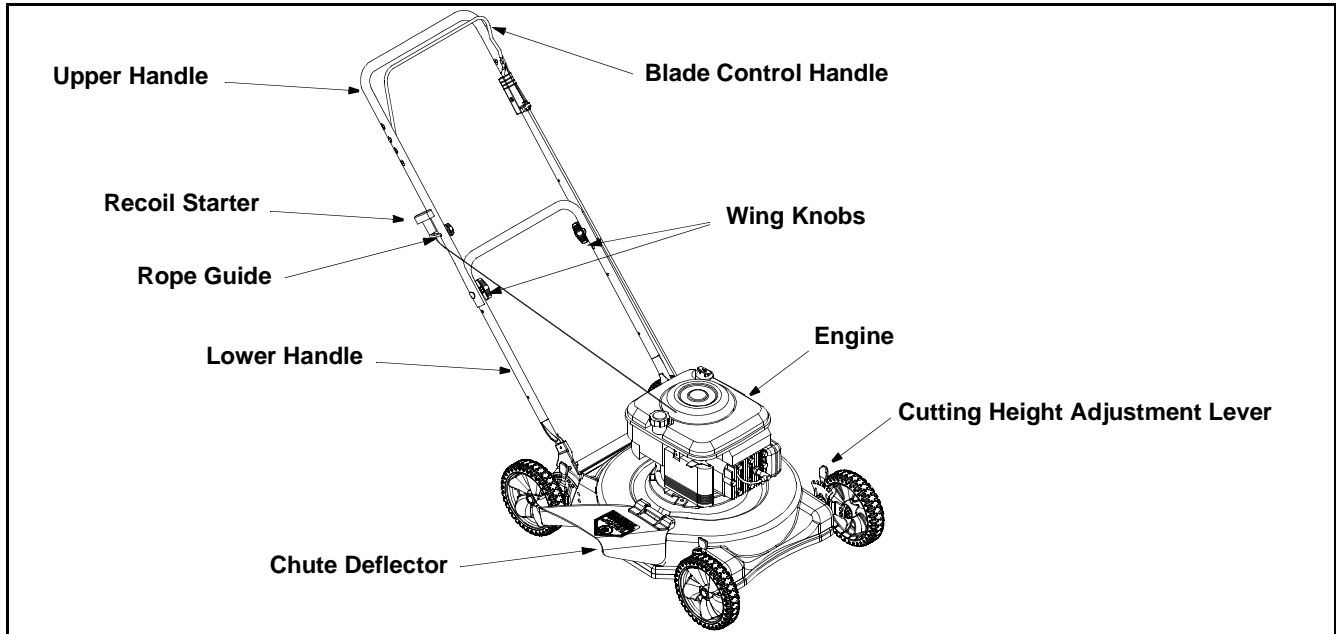

Figure 8
- With the spark plug wire disconnected and grounded, hold the blade control handle (see Figure 8) against the upper handle, and pull the starter rope out of the engine.
Read this operator's manual and safety rules before operating your lawn mower. Compare the illustration in Figure 8 with your lawn mower to familiarize yourself with the location of various controls and adjustments. Save this manual for future reference.
The blade control handle is located on the upper handle of the mower as shown in Figure 8. The blade control handle must be depressed in order to start and operate the unit. Release the blade control handle to stop the engine and blade.
The recoil starter handle is attached to the upper handle. Refer to Figure 8. Stand behind the unit in the operating position to start the unit.